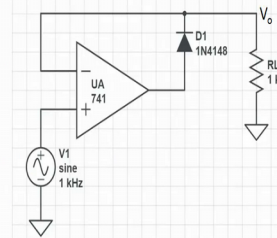

Figure 21
- Connect the circuit as shown in the Figure 21
First is you connect the circuit as shown in figure 21, ok connected. Now what now you apply 5 volts peak to peak sine wave at 1 kilohertz. Apply 5 volts peak to peak sine wave at 5 kilohertz; that means, that we will apply here 5 volts, 5 volts is peak to peak right, and sine wave is there and the frequency is 1 kilohertz. Where we have to apply? Apply at V₁. Observe the output voltage V_o observe the output voltage V_o and note down it is peak to peak voltage. Note down it is peak to peak voltage very easy, right? What you apply 5 volts 1 kilohertz observe the V_o.